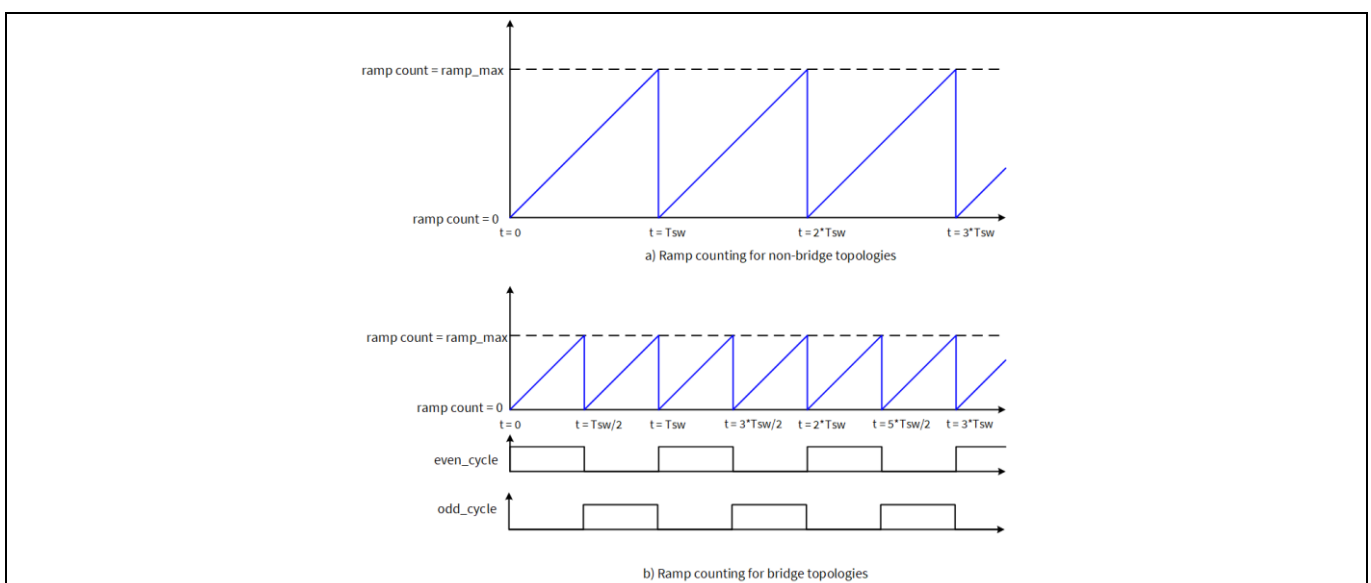

Figure 58 Ramp counter for a) non-bridge and b) bridge topologies
In order to generate the PWM pulses, the ramp generator produces the timing information based on a timing ramp. This timing ramp consists of a digital counter, which counts from $t = 0$ up to the maximum ramp count, **ramp_max**, before returning to 0 and counting up again. The ramp counter functionality is illustrated in Figure 58.
- For non-bridge topologies (buck, ACF, etc.) the ramp period is equal to the switching period (T_{switch}) and ramp_max is equal to a digital representation of T_{switch} , as shown in the upper part of **Figure 58**.
- For bridge topologies (HB, FB) the ramp period equals half of the switching period ($T_{\text{switch}}/2$) and ramp_max is equal to a digital representation of $T_{\text{switch}}/2$, as shown in the lower part of **Figure 58**.
In bridge mode, the two halves of the switching cycle are identified as either the even half-cycle or the odd half-cycle, as shown at the bottom part of **Figure 58**. This identification is used by the pulse generator to produce pulses only on the correct half-cycle.